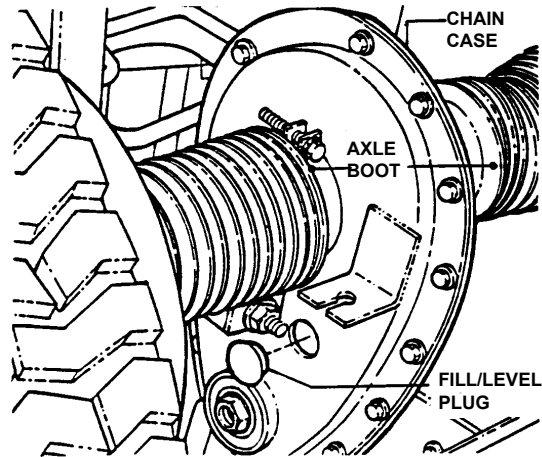

FIGURE 3.8
3. Check fill/level plug for damage. If signs of wear or cracks are visible, replace plug with new plug. See Figure 3.8.
4. To check lubricant in chain case, remove fill/level plug and look for lubricant on the internal components of the chain case. If no lubricant is visible, add "SNAPPER Transmission" grease as needed. See Figure 3.8.